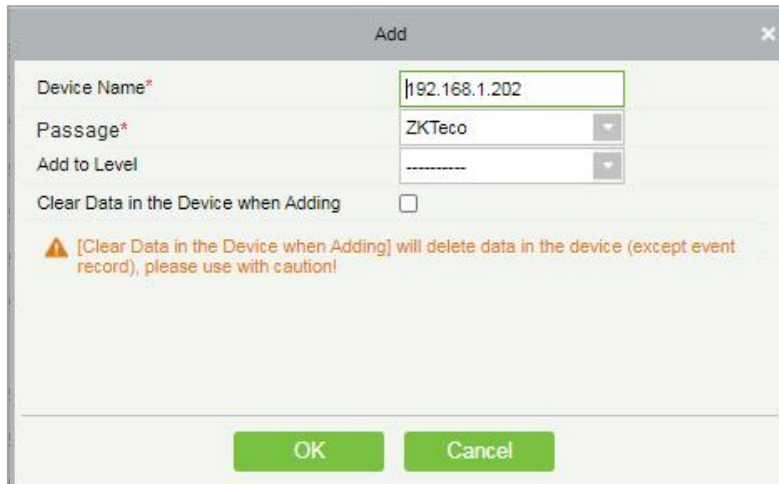

Figure 12-5 Device Addition Interface
Step 4: For the channel Device found, click the **Add** button in the operation bar to **Add** the device, and fill in the parameters of device addition, as shown in Figure 12-5. Please refer to Table 12-2 for parameter description.